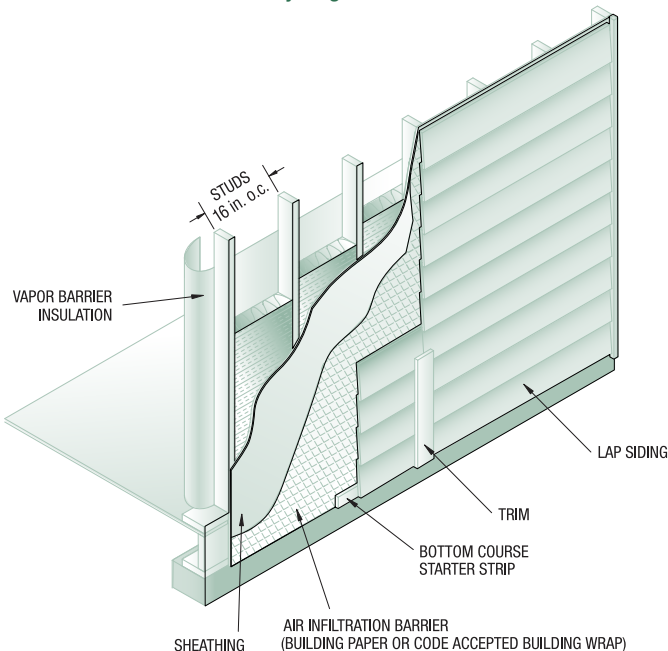

FIG. 5
- Vertically align butt joints at a stud (*See Fig 5*), fasten as required, gap 3/16 in., seal, and cover with trim.